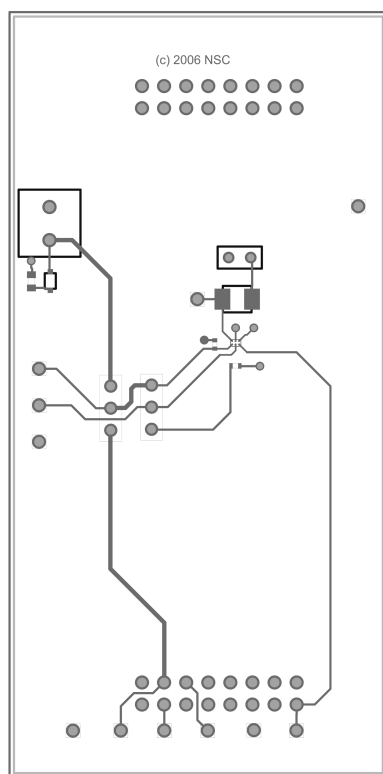

Figure 6. LP5522 Evaluation Board Layer 1
1. Top, component side, signal (Figure 6)